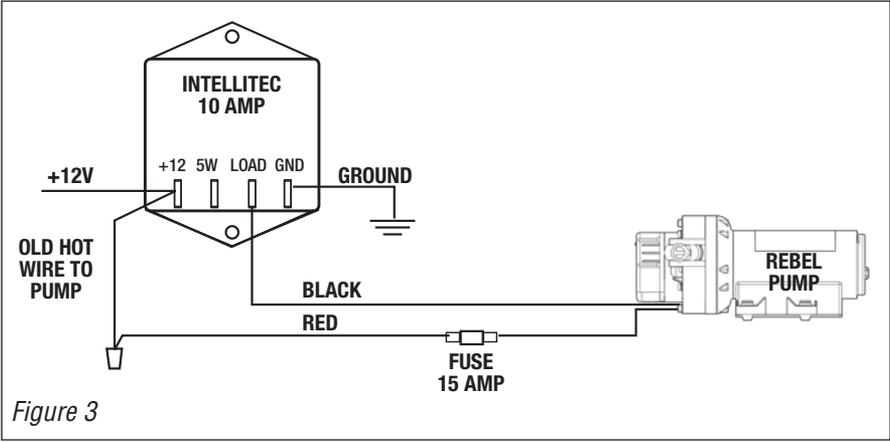
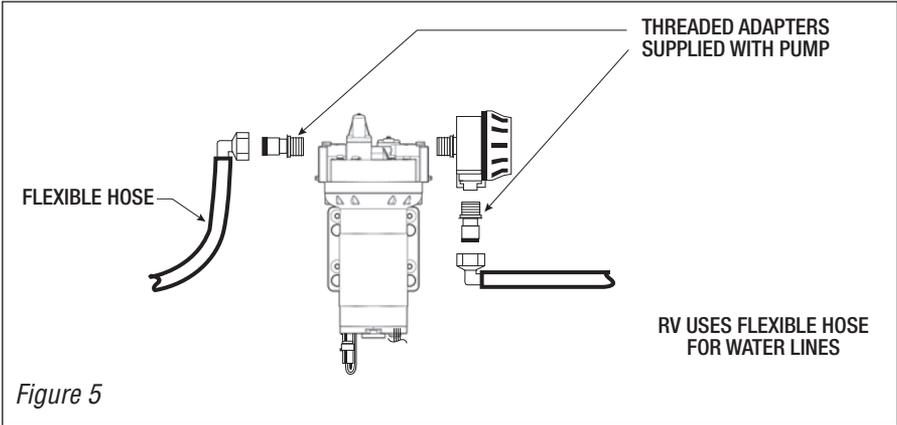
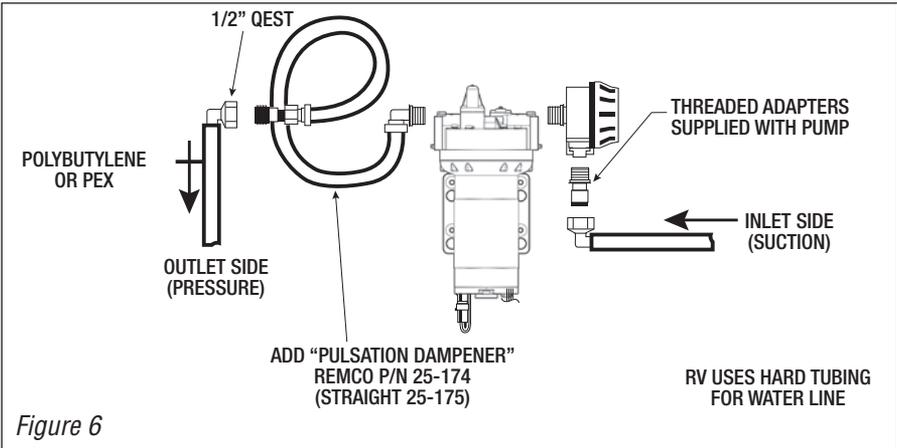
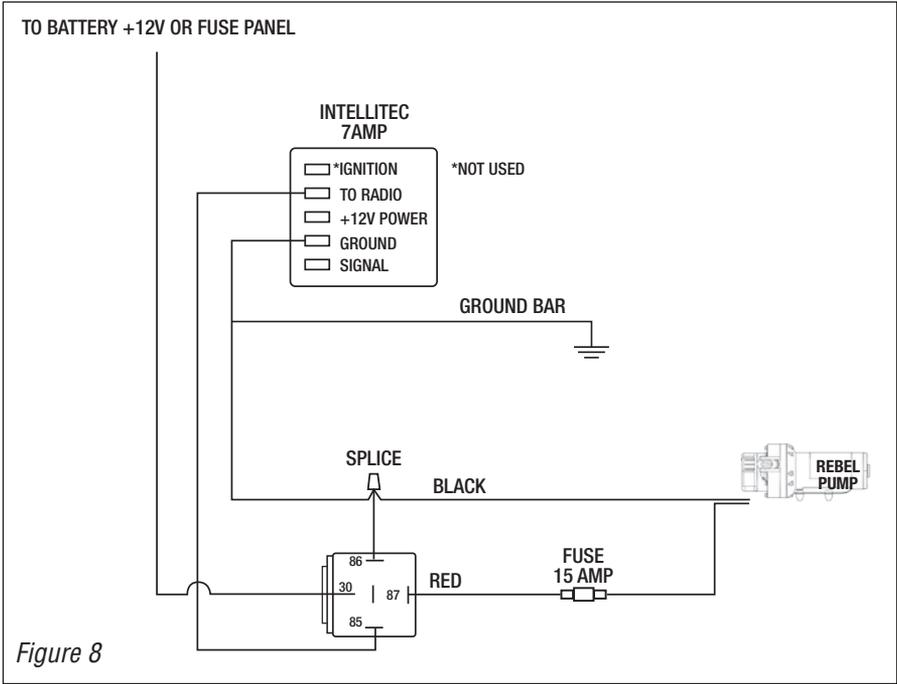

Figure 3
Figure 5
Figure 6
Figure 8
- b. Procure a 40 Amp rated relay (through either a local automotive store or directly through the Remco catalog, product number 20-267-6040-REM) to augment your existing controller. Please refer to Figures 3 & 4, page 13 and Figure 8, page 15.
4. Survey the existing plumbing and identify the suction line (i.e. the line going from the water holding tank to the pump). For the quietest possible operation of the Rebel pump, you should try to isolate the pump mechanically from your RV's typically hard Polybutylene or PEX tubing. If your RV is currently plumbed with soft-walled, reinforced hose (see Figure 5, page 14), then your system should be perfectly sufficient as is. By installing a piece of IAPMO approved cold water hose (such as 'Accuflex' Series 136) between the pump outlet port and your RV's hard plumbing, you will achieve the quietest possible pump operation. Remco also offers, as an optional accessory, a 39" long pre-assembled hose with fittings (Remco product number 25-174) that will adapt directly to the Rebel RV and your existing plumbing. Please refer to Figures 6 & 7, page 14.
5. At the end of your survey you should have determined how to wire the Rebel pump. Your alternatives are illustrated in Figure 1, page 12 (“no change,” also applicable for single switch systems), Figure 2, page 12, Figures 3 or 4, page 13 or Figure 8, page 15. You should also have determined how to plumb the pump. Your options are Figures 5, 6 or 7, page 14. Always make sure you have all hardware needed before you start the actual installation.
- a. [For old pump outlets connected to hose, as in Figure 5, page 14]
- b. For old pump outlets directly connected to hard tubing, as in Figure 6, page 14].
- a. [If the Rebel pump is to be directly plumbed to the existing inlet filter/fitting, as in Figures 5 and 6, page 14].
12. If an Accuflex hose adapter is used on the outlet side (see Figures 6 and 7, page 14), place the other end of the hose adapter up high. This should stop water from being siphoned out.
- a. [If you are plumbing per Figure 5, page 14]
- b. [If you are plumbing per Figures 6 or 7, page 14]
20. Water should be flowing into the bucket (see Figures 6 and 7, page 14) or into the sinks (see Figure 5, page 14).